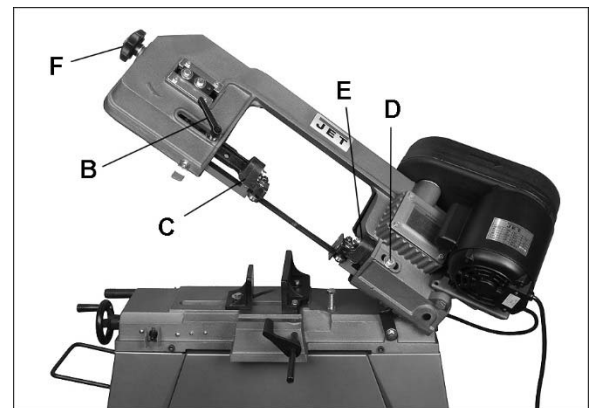

Figure 14
2. Loosen handle (B, Figure 14) and slide left blade guide assembly (C) as close as possible without interference to material being cut. Tighten knob.
3. Loosen bolt (D) and slide right blade guide assembly (E) as close as possible, without interference, to material being cut. Tighten bolt.
3. If blade is adjacent to wheel flange, loosen blade guide assembly handle and bolt (B and D, Figure 14) and slide blade guide assemblies as far apart as possible. Lock in place.